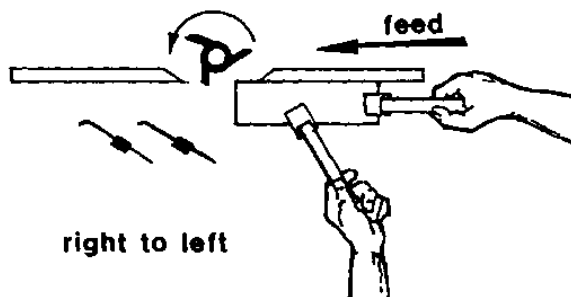

Figure 23
*Counterclockwise Setup* – With the cutter installed as shown in Figure 23, feed the workpiece from *right to left*.